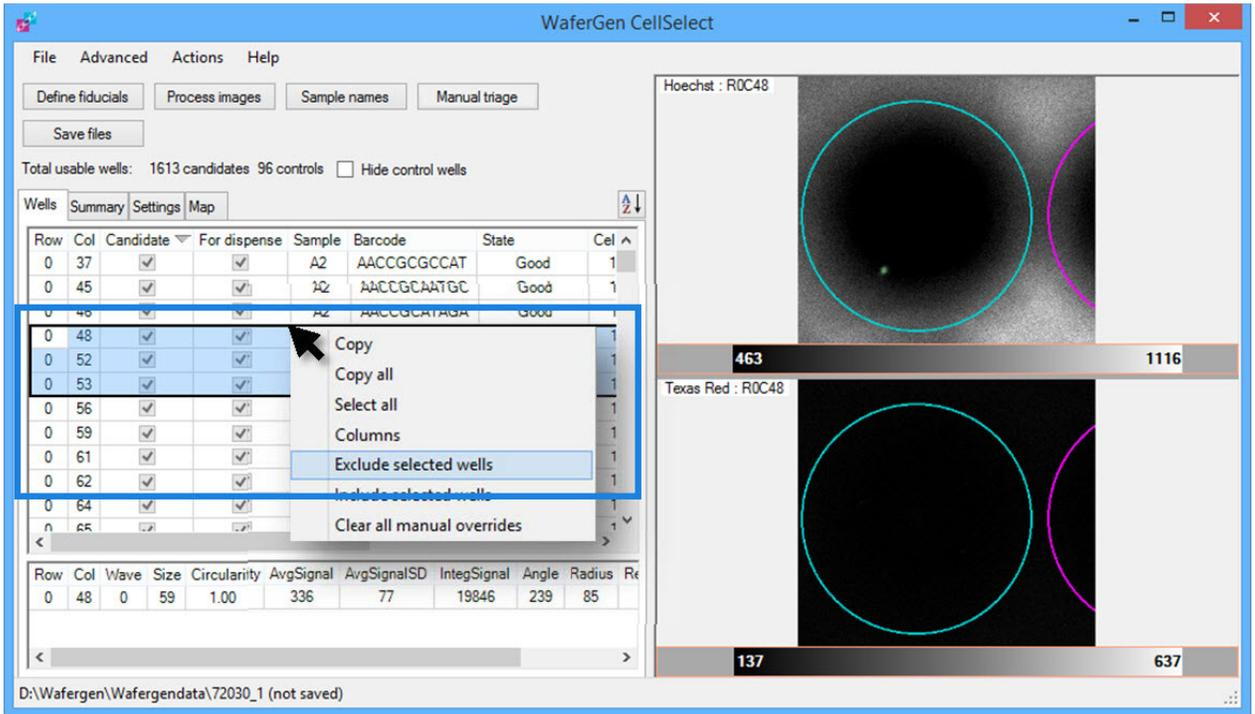

Figure 16. Excluding candidate wells.
- To manually exclude one or more candidate wells, right-click the highlighted row(s) and select **Exclude selected wells** (see Figure 16, below). To exclude several candidate wells, consider using the **Manual triage** function described in the section below (Section II.H).